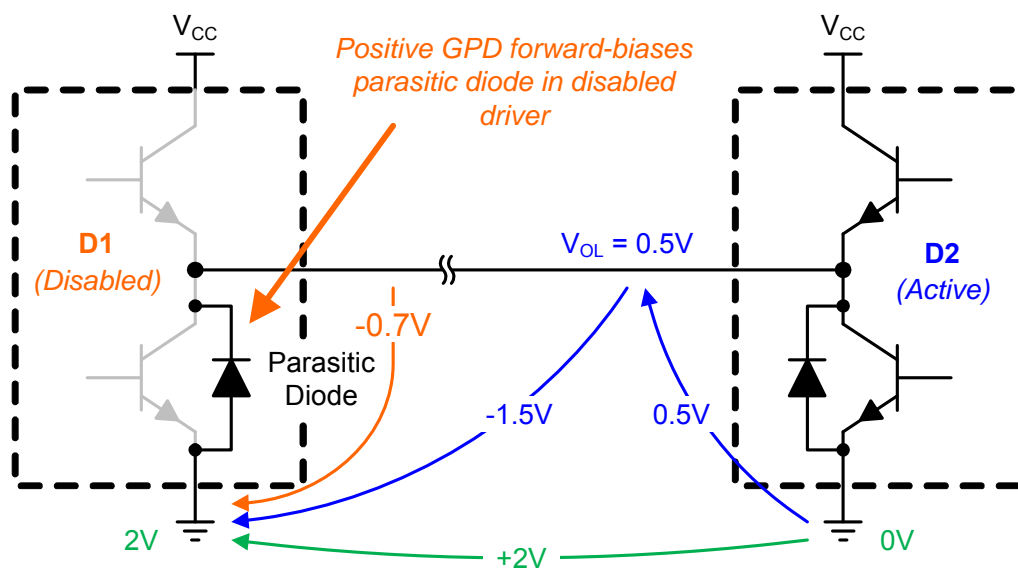

Figure 9. RS-422 Driver Output Structure with Forward-Biased Substrate Diode
- Figure 9. RS-422 Driver Output Structure with Forward-Biased Substrate Diode 5
Figure 9 shows the typical bipolar output stage of an RS-422 driver. Associated with the classical totem pole structure is the parasitic diode formed between the EPI layer and the substrate. This diode limits the negative common mode range of the active driver's output by clamping the line voltage to a diode drop below driver ground.